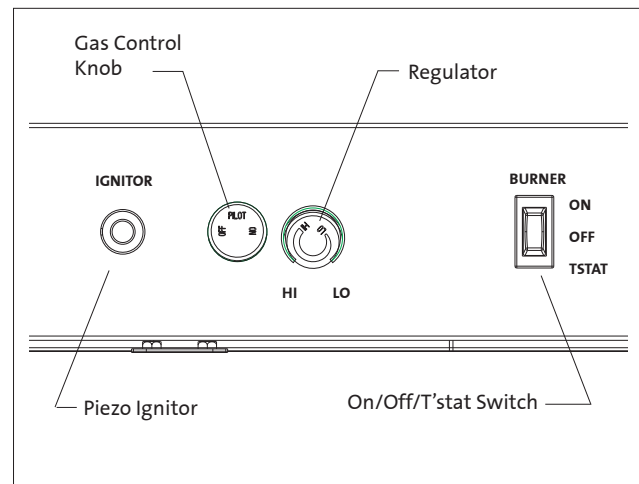

Figure 52. Burner Controls.
- 2. Install each of the Side castings** onto the cabinet by engaging the hanger tabs with the holes in the cabinet frame. See fig. 52 for orientation.